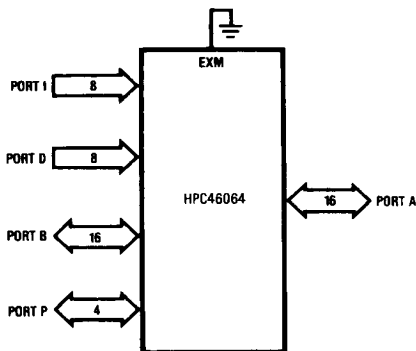

FIGURE 15. Single-Chip Mode
In this mode, the HPC46064 functions as a self-contained microcomputer (see *Figure 15*) with all memory (RAM and ROM) on-chip. It can address internal memory only, consisting of 16k bytes of ROM (C000 to FFFF) and 512 bytes of on-chip RAM and Registers (0000 to 02FF). The “illegal address detection” feature of the WATCHDOG is enabled in the Single-Chip Normal mode and a WATCHDOG Output (WO) will occur if an attempt is made to access addresses that are outside of the on-chip ROM and RAM range of the device. Ports A and B are used for I/O functions and not for addressing external memory. The EXM pin and the EA bit of the PSW register must both be logic “0” to enter the Single-Chip Normal mode.